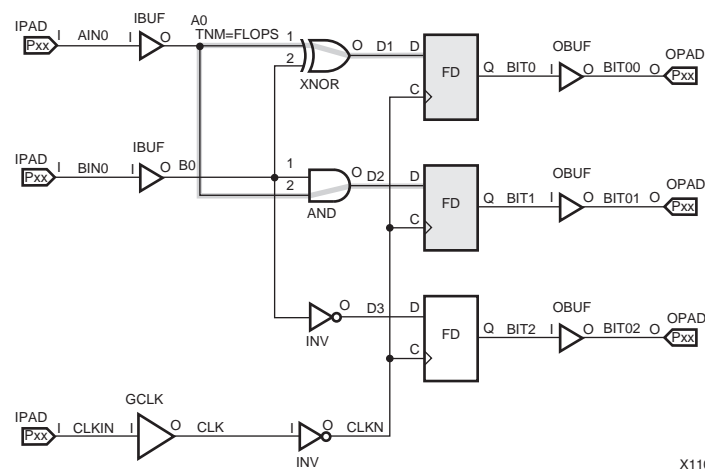

Figure 3-3: TNM on the CLK Net Traced Through Combinatorial Logic to Synchronous Elements (Flip-flops)
- Figure 3-3, TNM on the CLK Net Traced Through Combinatorial Logic to Synchronous Elements \(Flip-flops\)